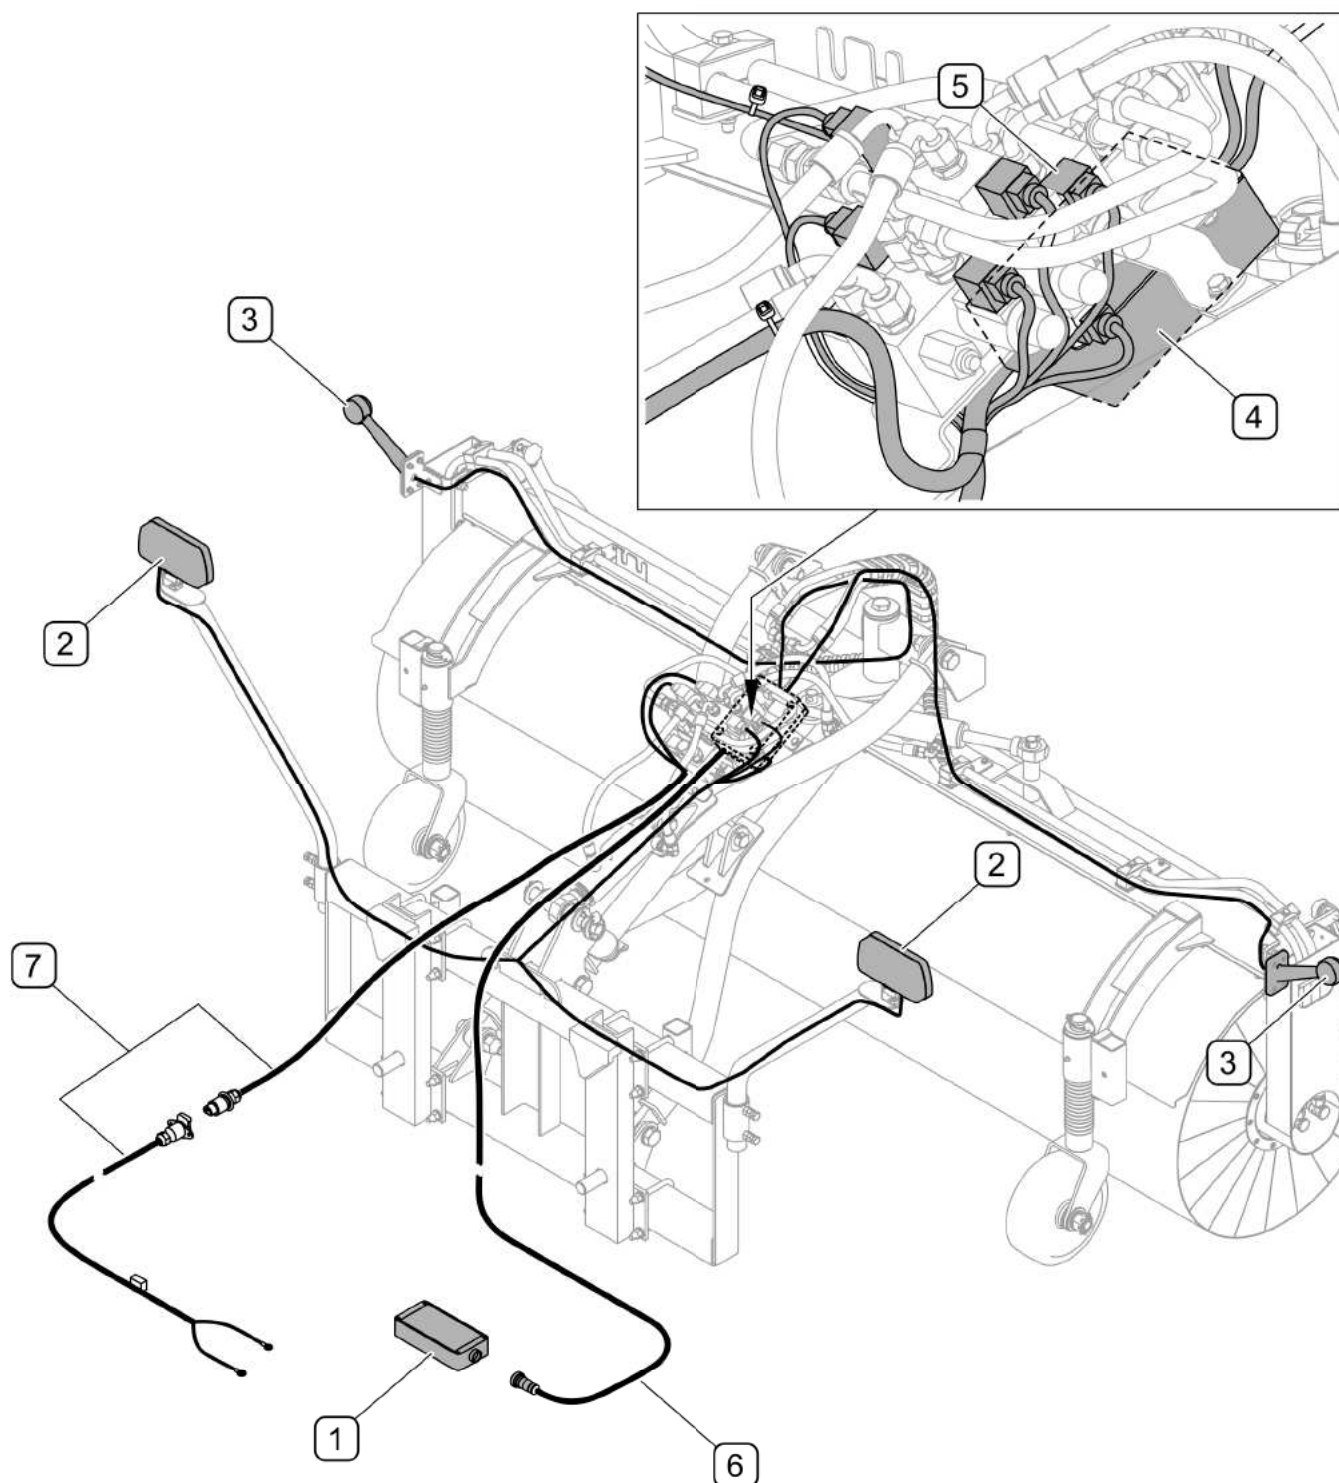

FIG. 3.7 Design of the electrical system (ZM-S25)
(1) - control panel; (2) - additional working lights; (3) - clearance lights; (4) - connecting box; (5) - solenoid valves; (6) - control panel lead; (7) - power lead
Electrical system of ZM-S25 sweeper (FIG. 3.7) is used for supplying and controlling the sweeper's lighting system that consists of working lights (2) and clearance lights (3) and for controlling solenoid valves (4) of the hydraulic manifold. The sweeper's electrical system is connected to the carrying vehicle using power lead (7) terminated with a socket and a 3-pin plug. Depending on machine version, the sweeper can be supplied from 12V or 24V electrical system of the carrying vehicle. The sweeper is controlled by means of control panel (1) that is connected to the sweeper with lead (6).